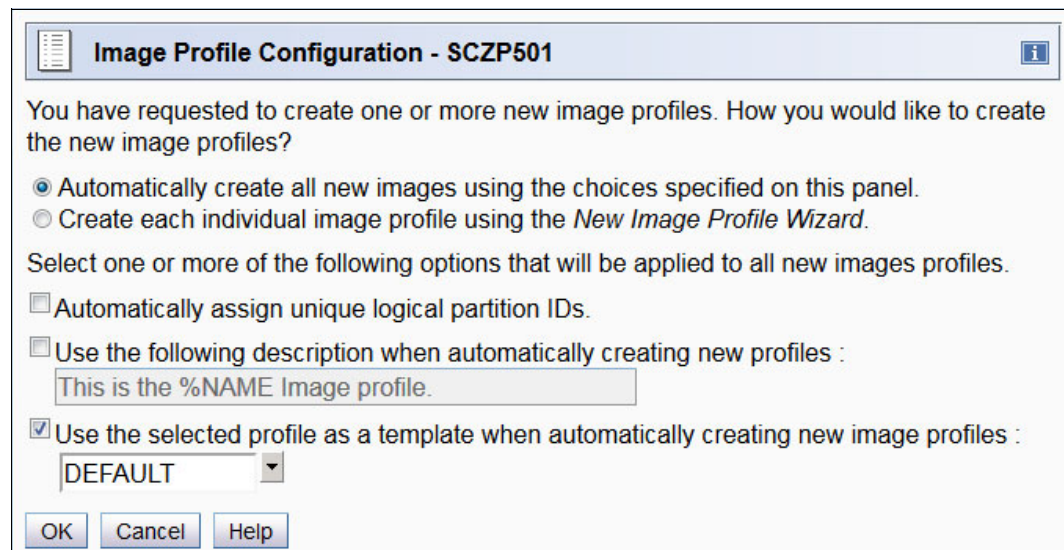

Figure 8-132 HMC - Image Profile automatic build options
10. The HMC retrieves any Image profiles that match the LPAR names in the IOCDS that was selected. It also allows you to create new Image profiles for ones that it cannot retrieve. In the example, the last option is selected. Click **OK** (Figure 8-132).